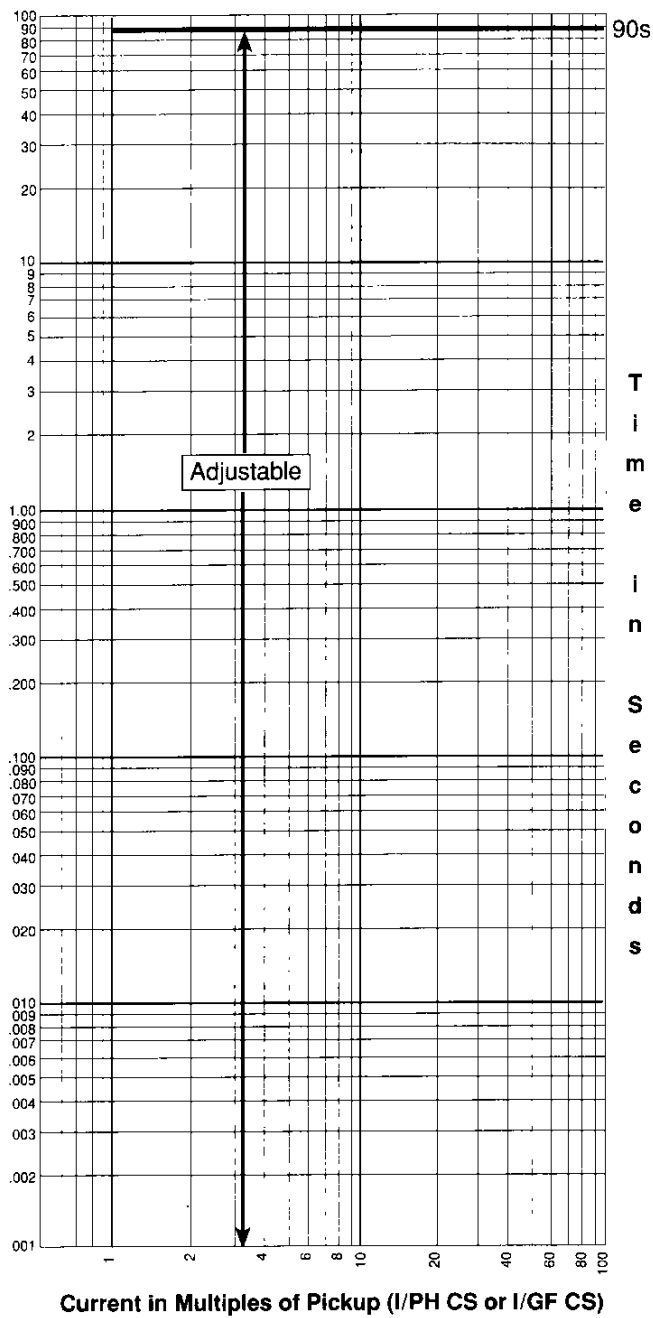

Figure 57: Definite time (DT) curve
- DT: definite time curve (figure 57, page 52)